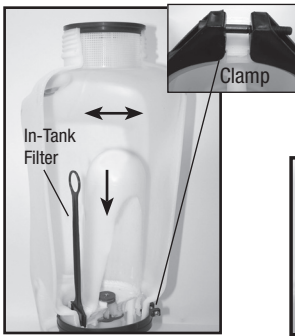

Figure 1
6. Rock the pressure chamber back and forth and push down to free it from the tank (fig 1).